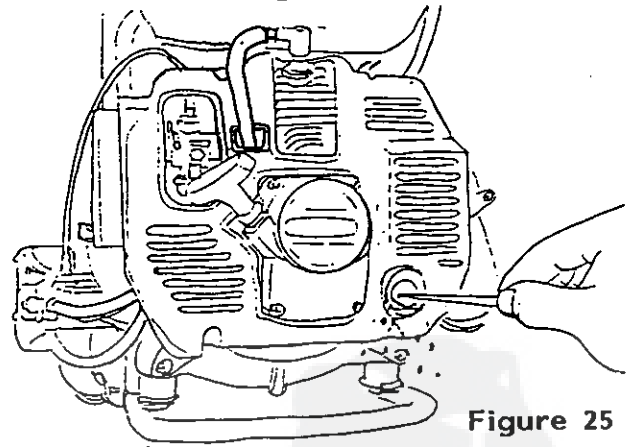

Figure 25
1. Clean muffler by removing carbon deposits at outlet port. This should be done every month to maintain constant performance of engine. (Figure 25)